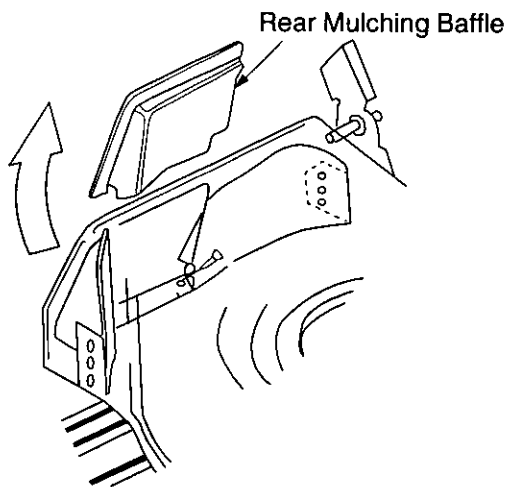

FIGURE 8
- Lift the rear discharge door and remove the rear mulching baffle from the mower. See Figure 8.